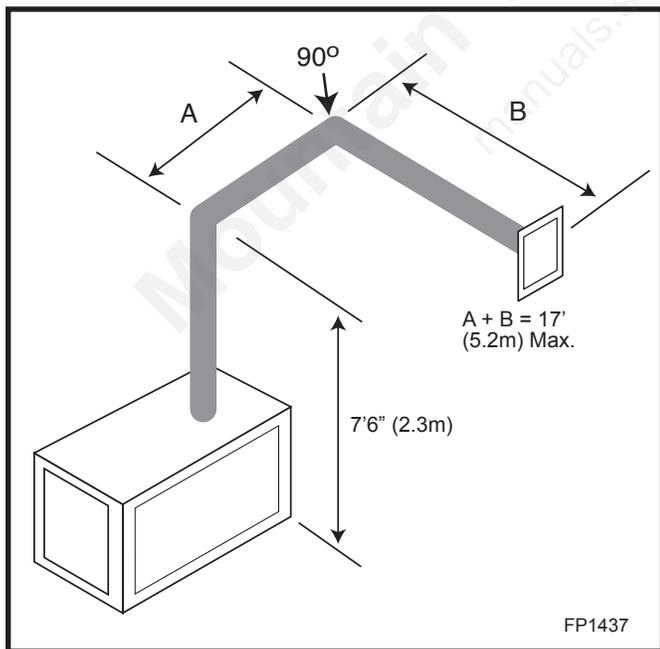

Fig. 22 Horizontal run reduction.
- NOTE:** The sum of Dim. A and Dim. B must not be greater than 17 ft. (5.2m). (Fig. 22)